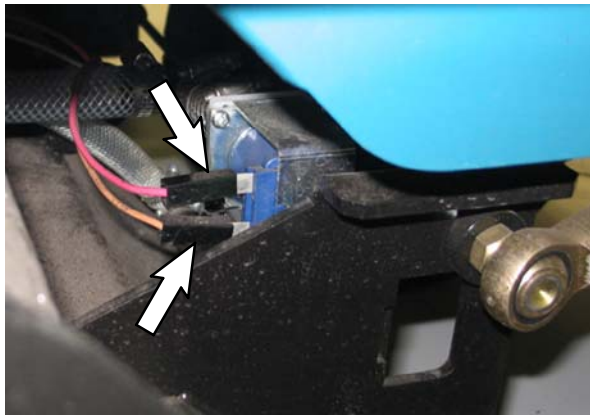
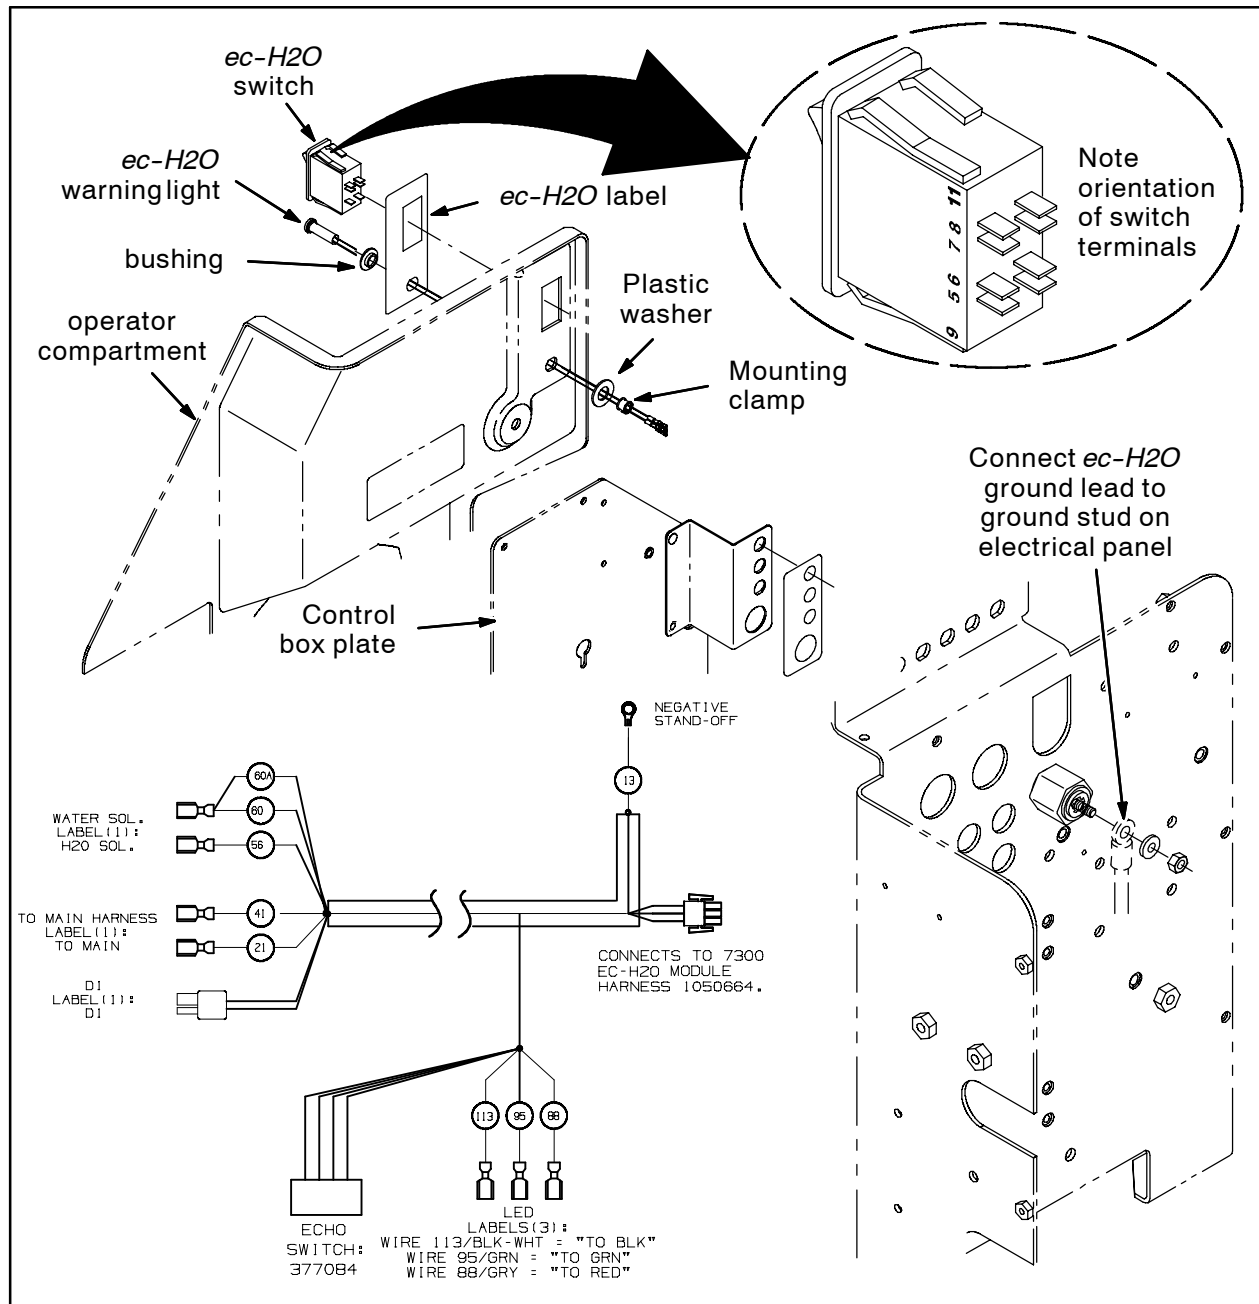

FIG. 10
FIG. 14
12. Disconnect the main wire harness from the water valve attached to the scrub head. Refer to Fig. 10.
13. Connect the two wires previously attached to the water valve to the *ec-H2O* harness. Refer to Fig. 10 and Fig. 14.
14. Connect the *ec-H2O* harness to the water valve. Refer to Fig. 10 and Fig. 14.
17. Install the *ec-H2O* label onto the operator compartment. Refer to Fig. 12, Fig. 13, and Fig. 14.
18. Install the *ec-H2O* switch into the operator compartment. Refer to Fig. 13 and Fig. 14.
19. Remove the mounting clamp from the *ec-H2O* warning light, slide the bushing onto the light, install the light into the operator compartment, and slide the plastic washer onto the light. Reinstall the mounting clamp to secure the light into place. Refer to Fig. 14.
20. Route the end of the *ec-H2O* harness with the connector for the switch up behind the area of the operator compartment where the light and switch were installed in the previous steps. Refer to Fig. 14.
21. Connect the *ec-H2O* harness to the light. Refer to Fig. 14.
22. Connect the *ec-H2O* harness to the switch. Refer to Fig. 14.
23. Connect the ground lead of the *ec-H2O* harness onto the ground stud in the control box panel. Refer to Fig. 14.